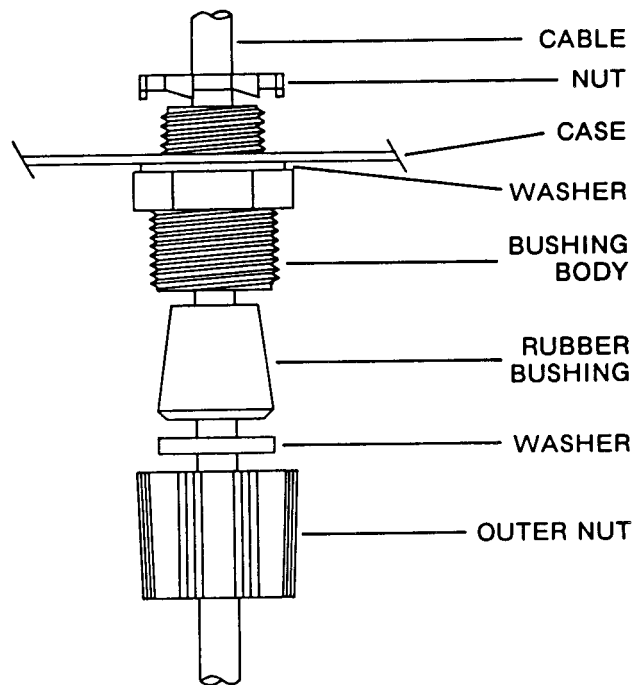

Figure 2-12 Cord-Grip Fitting
4. Figure 2-12 shows you how to assemble the cord-grip fitting.